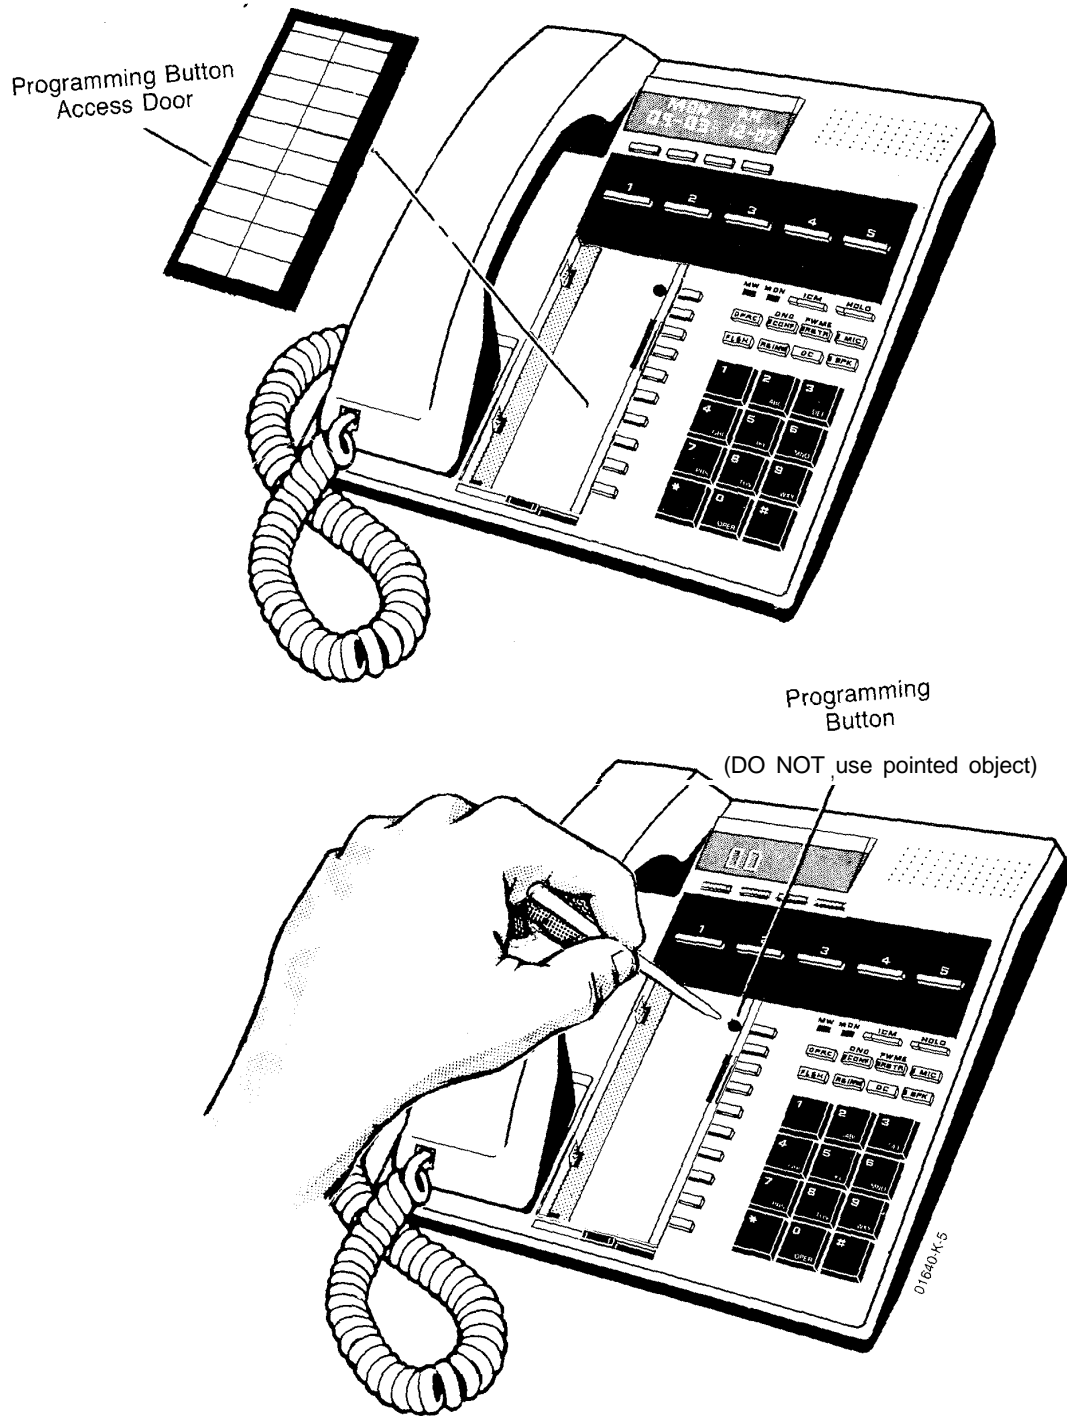

FIGURE 2-6 KENTERING THE PROGRAMMING MODE
3. Remove Programming Button Access Door. Use a **blunt-edged, non-conductive** item to press programming button (see Figure 2-6 Entering the Programming Mode).